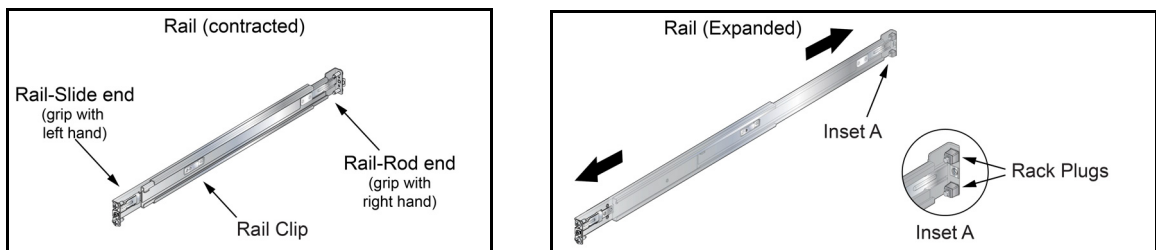

Figure 3-11: Expanding the Rails
Step 1 Grip the slide end with your left hand the rod end with your right hand (Figure 3-11-left).
Step 2 Pull the ends apart until the rail-clip makes an audible click (Figure 3-11-right).
A rail connects a front post to a rear post. Each end has two rack plugs (Figure 3-11-Right, Inset A). Rails are installed into a rack by inserting the plugs into rack slots. To install rails into posts with threaded or rounded holes, remove all plugs on both sides of the rails, then install the rails with bolts that fit the rack. This procedure attaches the rails to a four-post rack: